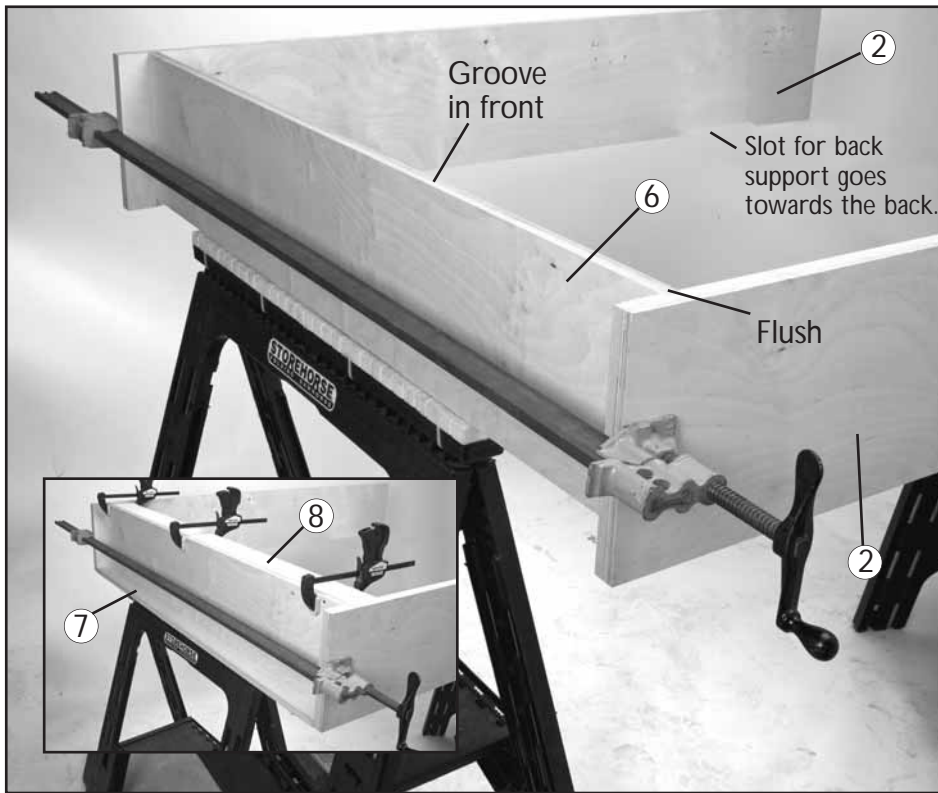

Fig. 1
1. Fit the Top Shelf (6) into the dadoes towards the top of the two Sides (2). The groove running the length of the Top Shelf should be facing down and to the front. The front of the Top Shelf should be flush with the front edges of the two Sides. Use a clamp to hold the three pieces in place. Fig. 1.
2. Place the Top Back Support (7) in place, fitting the Top Shelf (6) into the groove running the length of the Top Back Support (7). It should be flush with the top and back edges of the two Sides (2).
3. Using the pre-drilled indicator holes as a guide, drill five 1/8" pilot holes through the Top Back Support (7) and into the Top Shelf (6).
4. Apply a thin layer of glue to the edge of the Top Shelf (6) and use five 1 1/2" Flathead Wood Screws (23) to screw the Top Back Support (7) in place.
5. Fit the Light Hood (8) into the groove running the length of the underside of the Top Shelf (6). Fig. 1 inset.
6. Using the pre-drilled indicator holes as a guide, drill three 1/8" pilot holes through the Top Shelf (6) and into the Light Hood (8).
7. Apply a thin layer of glue to the edge of the Light Hood (8) and use three 1 1/2" Flathead Wood Screws (23) to screw it in place. Fig. 1 inset.